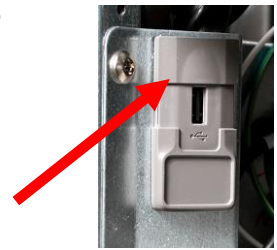

Figure 20
3. Locate the USB with the **IoT AGENT SOFTWARE FILES** and insert the USB drive into the USB port on the **FAR-LEFT** side of the fryer, just inside the left fryer door (see Figure 20). The USB port may differ in appearance based on date of manufacture